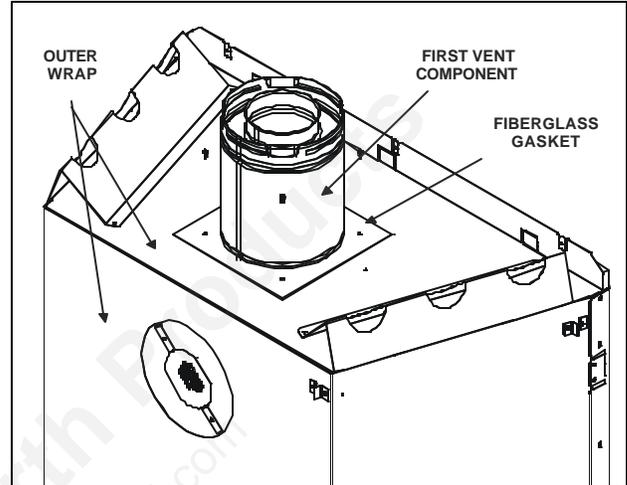

Figure 15. Fiberglass Gasket
- Using 2 self-tapping screws from the manual bag secure that gasket to the outer wrap (see Fig. 15).